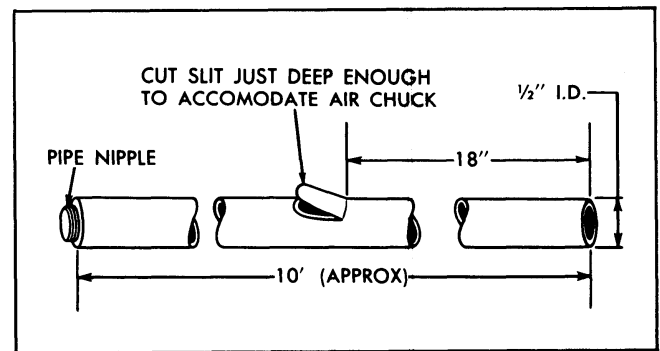

Fig. 8-8 Fuel Tank Drain Hose
1. Insert a length of hose (refer to Fig. 8-8 for details) into the gas tank, pipe nipple end first, until weighted end of hose rests on bottom of tank.